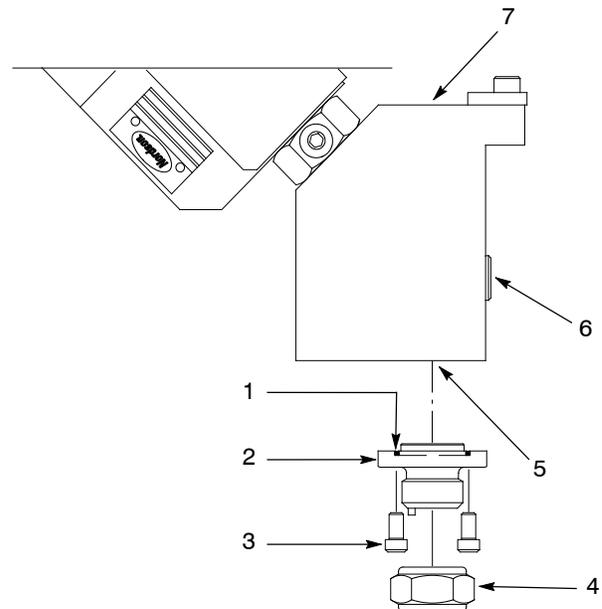

Figure 6 Installing Optional Adapter Kit
2. See Figure 6. Install the material inlet fitting in the material inlet port (7) of the gun body.
See Figure 6. Each CE20 gun has a pressure transducer port (6). Various pressure transducers are available for use with these guns. If necessary, contact a Nordson representative for assistance in selecting and installing the appropriate pressure transducer.
1. See Figure 6. Lubricate the O-ring (1) with O-ring lubricant. Make sure it is properly seated in the nozzle adapter body (2).
2. Insert the nozzle adapter body into the body and seat at the material outlet port (3).
3. Install the screws (3) into the body and seat. Tighten the screws to 7.8 N•m (69 in.-lb).
4. Thread the nozzle nut (4) over the nozzle and onto the end of the nozzle adapter body. Tighten the nut to 40.7 N•m (30 ft-lb).